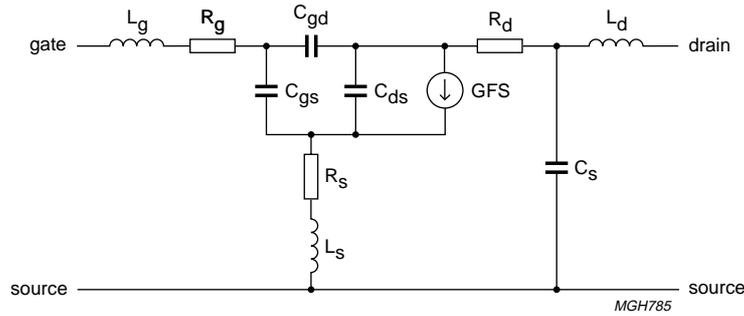

Fig.2 RF Power MOSFET equivalent diagram (one BLF548 section).
1. Determine the BLF548's 150 W output power load impedance between 100 and 500 MHz (50 MHz interval steps) by measurement techniques or simulations. At the moment of writing it was not possible to perform full automatic measurements at frequencies lower than 500 MHz with transistors build in a balanced SOT262 header. Therefore the load impedances have been calculated by means of the electrical equivalent diagram shown in Fig.2.
6. Choose the right input matching network which has a minimum return loss (RI) at the highest frequency (450 MHz) and a declining RI for lower frequencies in a way that the gain increase effect for lower frequencies is equalized. Other possibilities, as feedback or frequency dependent damping at the gate side (by means of low  $R_g$ s), can be taken into consideration.
At the following pages the design steps are presented which were followed at PHILIPS' laboratories in order to design a 150 W unit. Using the diagram shown in Fig.2, powergain and impedances have been calculated first, using the data given in Table 2.